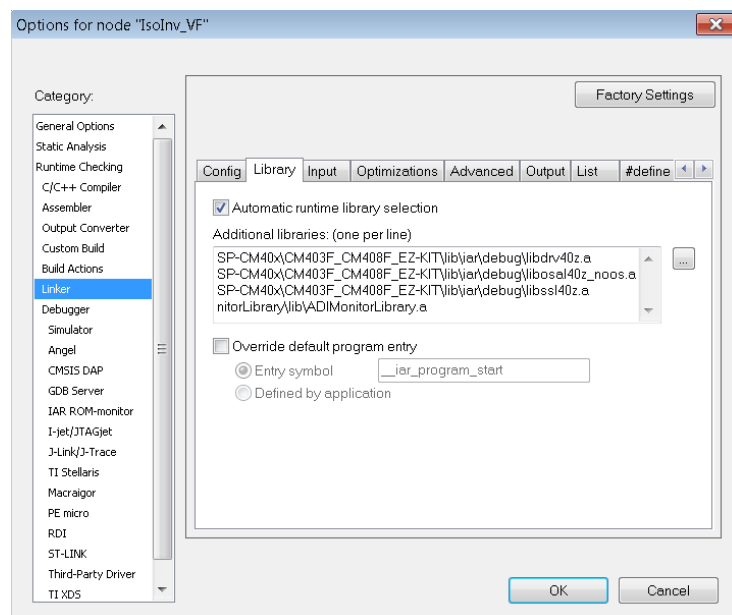

Figure 5: Linker libraries
4. Ensure that the linker library files are listed as shown in Figure 5 and that the Linker configuration file in the *Linker->Config* tab is set to \$PROJ_DIR\$\CM40z_384_2048_copy_to_SRAM.icf.